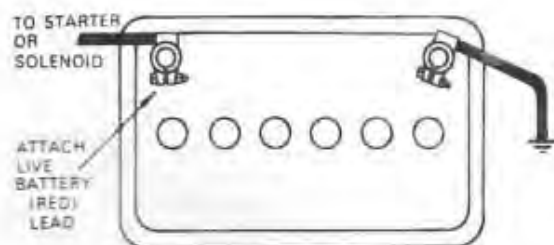

Figure 2
4. Connect **LIVE BATTERY** lead to the battery terminal from which the vehicle electrical supply is taken. Ref. Fig. 2.